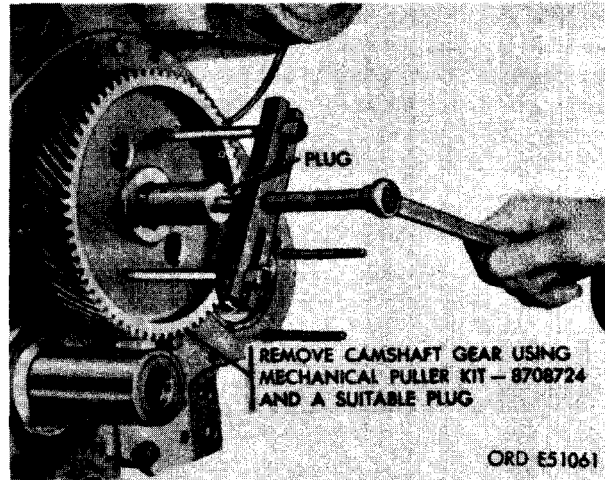

FIGURE 217. REMOVING CAMSHAFT GEAR USING MECHANICAL PULLER KIT - 8708724.
- (13) Refer to figure 217 and remove camshaft gear.
d. If the timing marks do not aline in the above manner, remove the self-locking nut and remove the camshaft gear from the engine, using puller -8708724 (fig. 217). Rotate the camshaft and gear until the marked teeth are